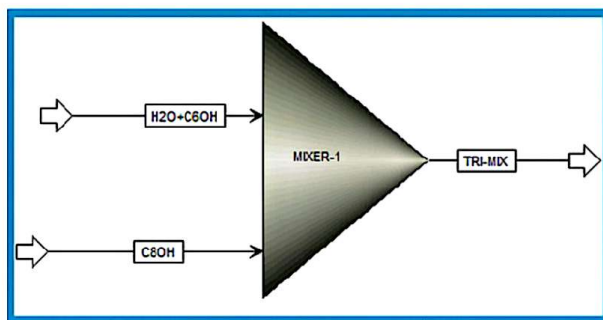

Figure 2.24 A simple process flowsheet for mixing water-hexanol mixture with 1-octanol.
We have a 50/50 wt. % mixture of water and *n*-hexanol. We plan to separate this mixture into its constituents and ultimately end up with almost pure streams of water and alcohols. Figure 2.24 shows the starting (i.e., simple) process flowsheet where we will mix water-hexanol stream with 1-octanol to end-up with a ternary mixture (“TRI-MIX”).
4. Switching to “**Simulation**” environment and using the “**Model Palette**”, add one mixer from “**Mixers/Splitters**” tab and three required material streams. Name the block and streams as shown in Figure 2.24.